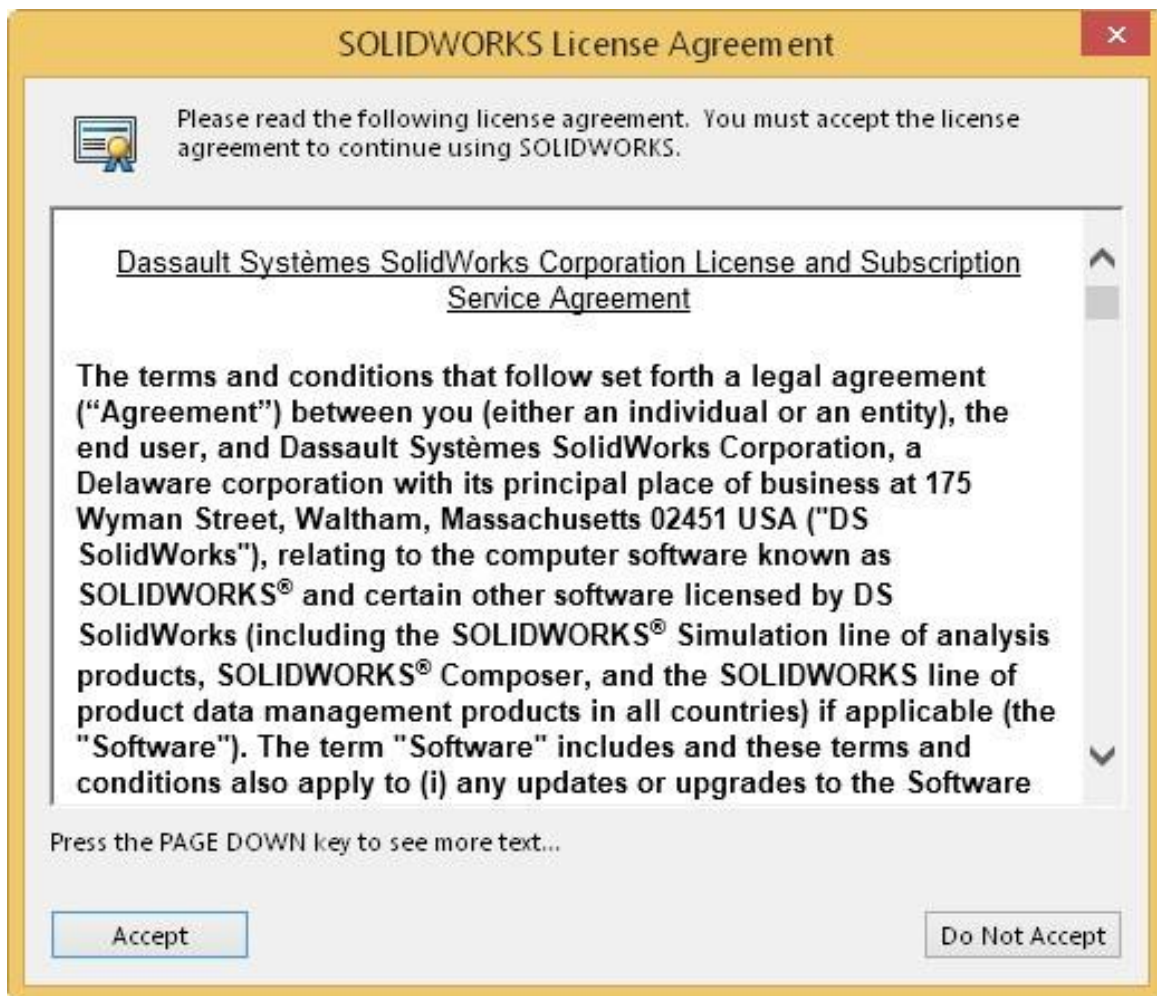
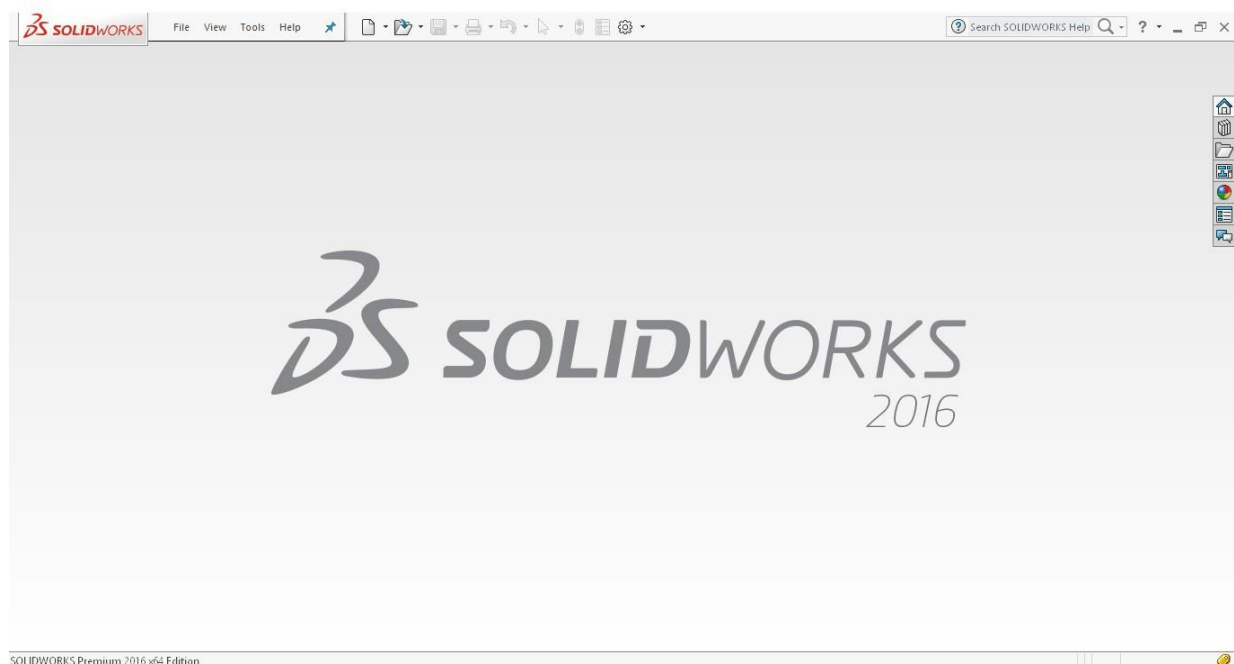

Figure 2-6 The SOLIDWORKS License Agreement dialog box
Figure 2-7 The SOLIDWORKS window
1. Choose **Start > SOLIDWORKS 2016** from the **Start** menu or double-click on the **SOLIDWORKS 2016** icon on the desktop of your computer; the SOLIDWORKS 2016 window will be displayed. If you are starting the SOLIDWORKS application for the first time after installing it, the **SOLIDWORKS License Agreement** dialog box will be displayed, as shown in Figure 2-6. Choose the **Accept** button from the dialog box; the **SOLIDWORKS 2016** interface window will be displayed, as shown in Figure 2-7.
The initial interface of the **SOLIDWORKS 2016** window consists of SOLIDWORKS menus, Menu Bar, and Task Pane, refer to Figure 2-7.